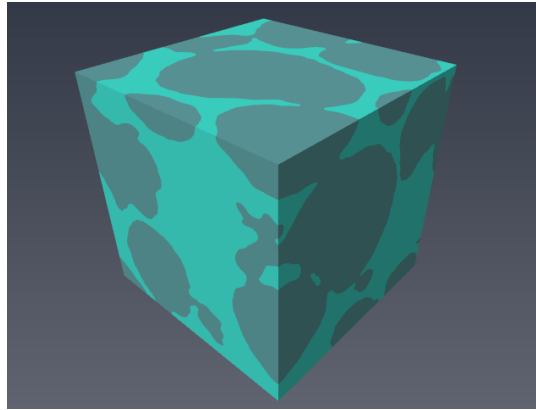

Figure 7.12: Surface generated from the two phases label image.
- Attach a *Surface View* display module to the resulting surface (see Figure 7.12).